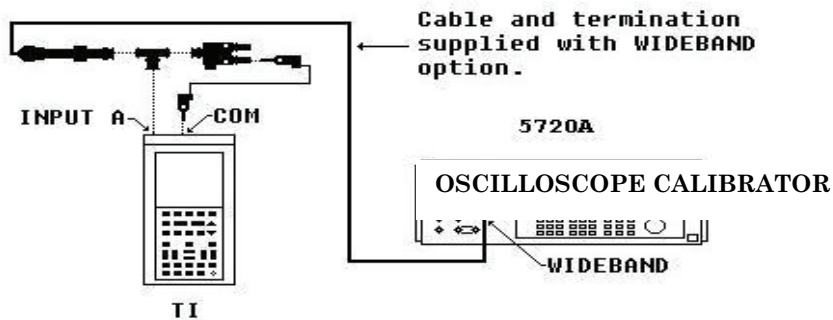

Figure 6. Meter ac voltage.
(8) Connect equipment as shown in figure 6 below: